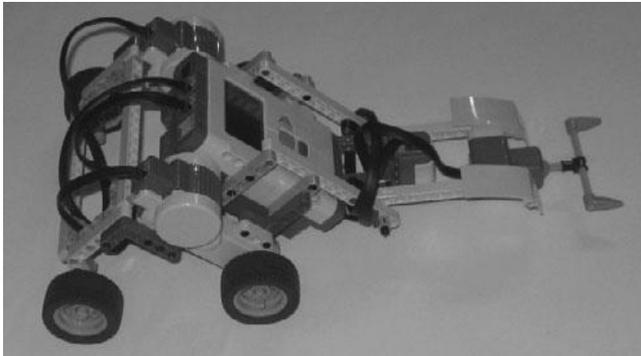

Figure 11.18
Step 2: Using a 20cm/8-inch cable, connect the touch sensor to Port 1 on the NXT Brick, as shown in Figure 11.18.